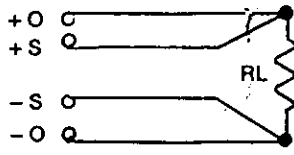

Fig. 4
**REMOTE SENSING:** Remote sensing is a standard feature. To sense the output voltage directly at the load, disconnect the jumpers between the DC output terminals and sensing terminals. Connect the load to the DC output terminals. Then wire the (+) and (-) sensing terminals respectively across the load as shown in Fig. 4. This permits sensing directly at the load.